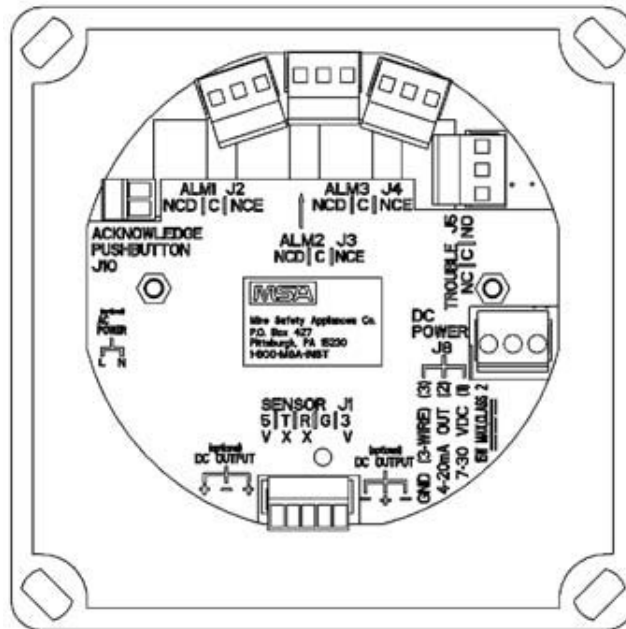

Fig. 31 Relay Contacts
- During normal operation, the relay contacts are normally closed (NC) and normally open (NO) as shown in Fig. 31.
NOTE: Fig. 31 depicts the version of the printed circuit board assembly without HART components. Fig. 19 is the equivalent HART version.
All electrical connections to internal relays can be made directly on the pc board (see Fig. 31).